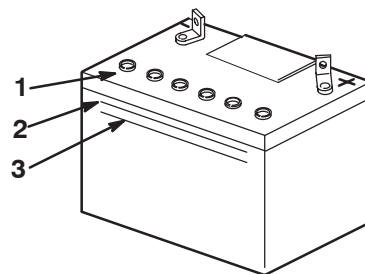

Figure 60
2. Look at the side of the battery. The electrolyte must be up to the **upper** line (Fig. 60). Do not allow the electrolyte to get below the **lower** line (Fig. 60).
3. Remove the vent caps from the battery (Fig. 60).
4. Slowly pour distilled water into each battery cell until the level is up to the **upper** line (Fig. 60) on the battery case.
5. Wait five to ten minutes after filling the battery cells. Add distilled water, if necessary, until the electrolyte level is up to the **upper** line (Fig. 60) on the battery case.